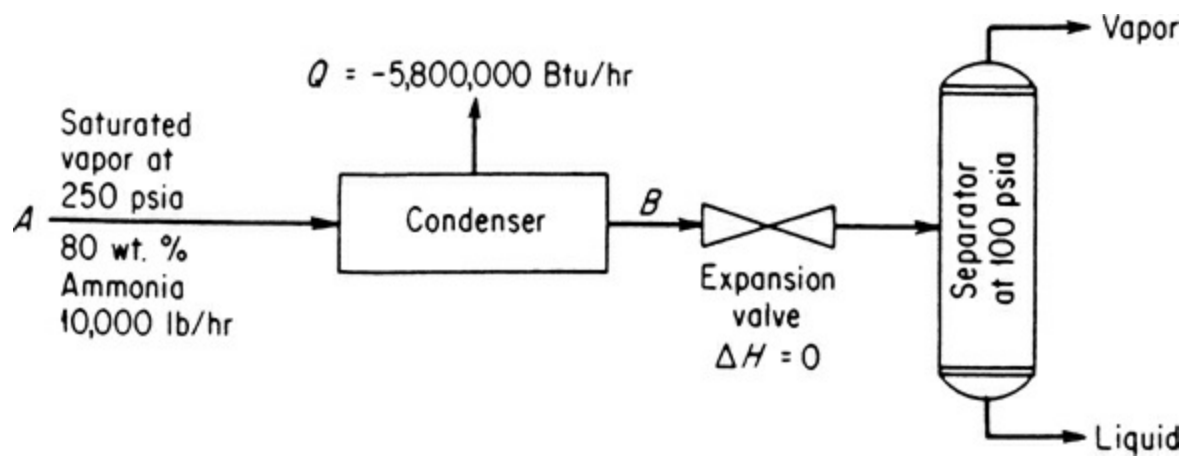

Figure P12.15
- 12.15 *** A mixture of ammonia and water in the vapor phase, saturated at 250 psia and containing 80% by weight ammonia, is passed through a condenser at a rate of 10,000 lb/hr. Heat is removed from the mixture at the rate of 5,800,000 Btu/hr while the mixture passes through a cooler. The mixture is then expanded to a pressure of 100 psia and passes into a separator. A flowsheet of the process is given in Figure P12.15. If the heat loss from the equipment to the surroundings is neglected, determine the composition of the liquid leaving the separator by material and energy balances.